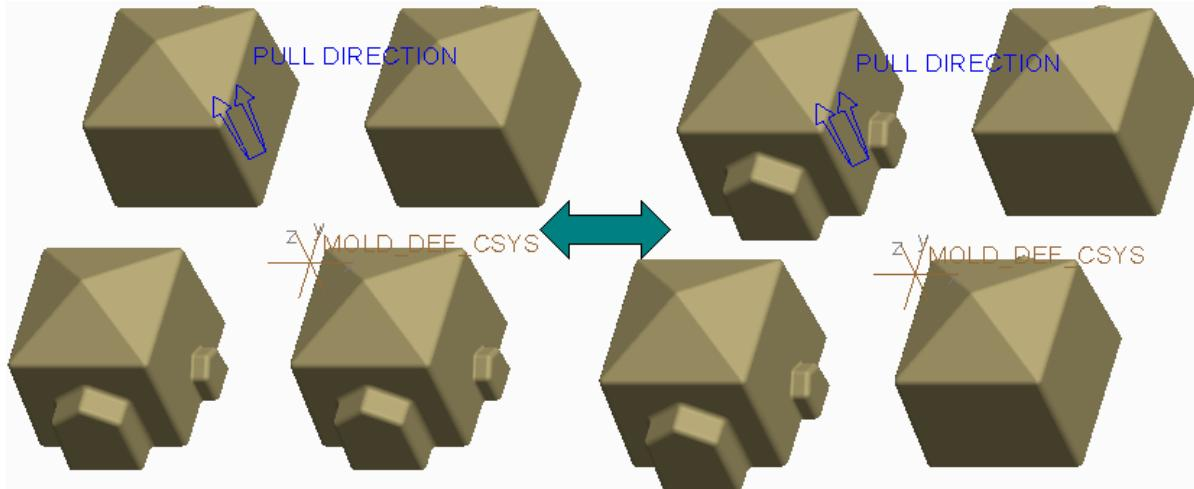

Figure 1 – Rectangular Layout, X-Symmetric versus Y-Symmetric Orientation
- X-Symmetric – Cavities are mirrored about the mold model's X-axis. That is, the cavities are arranged so that they appear in the same orientation when looking out from a plane that runs along the mold model's X-axis. X-Symmetric orientation is shown in the left image of Figure 1.
- Y-Symmetric – Cavities are mirrored about the mold model's Y-axis. That is, the cavities are arranged so that they appear in the same orientation when looking out from a plane that runs along the mold model's Y-axis. Y-Symmetric orientation is shown in the right image of Figure 1.